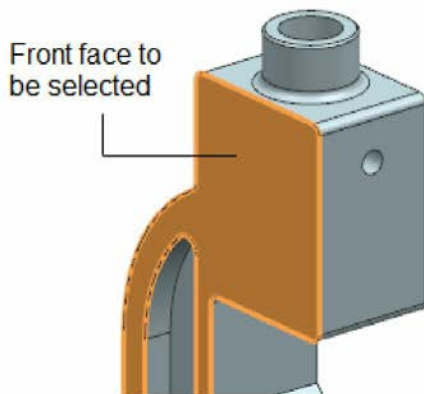
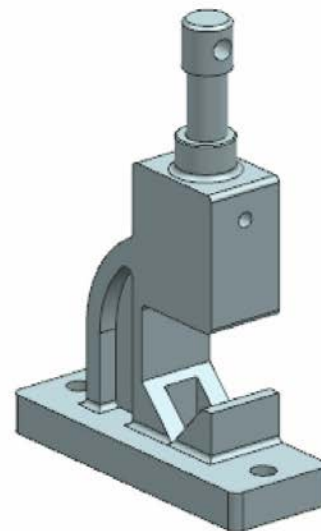

Figure 8-56 Front face of the Base to be selected
Figure 8-57 The assembly after assembling the Screw
10. Select the XC-YC plane from the Screw and then select the front face of the Base, refer to Figure 8-56 and then choose the **Apply** button. The assembly after assembling the Screw is shown in Figure 8-57.